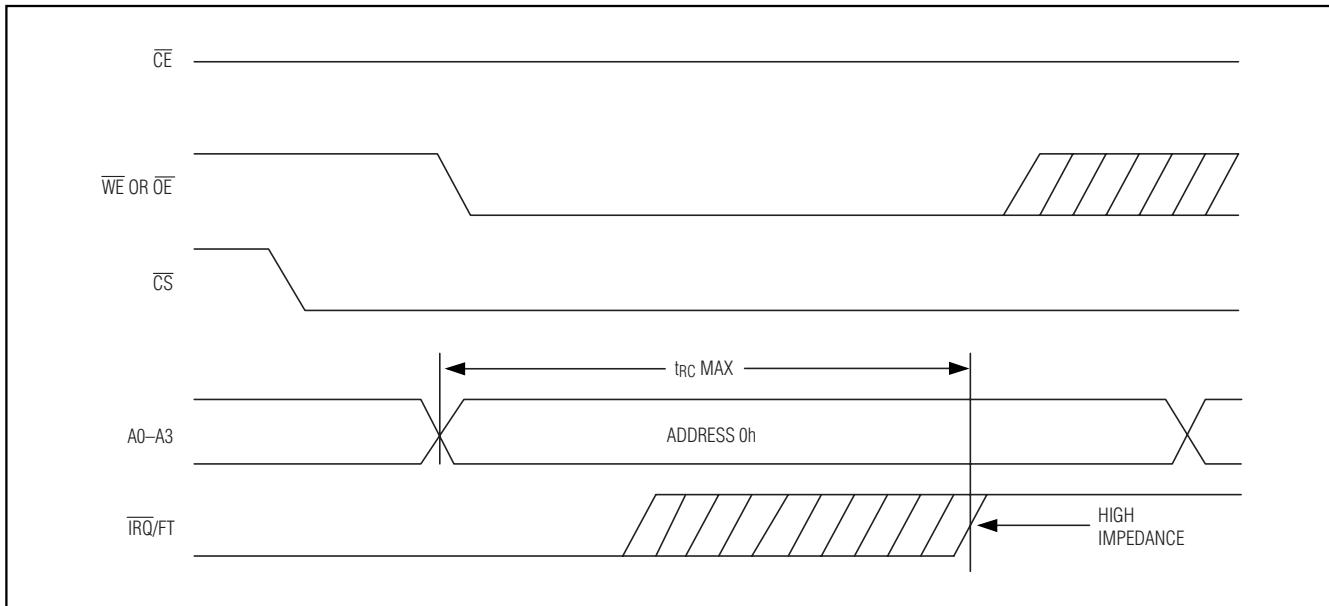
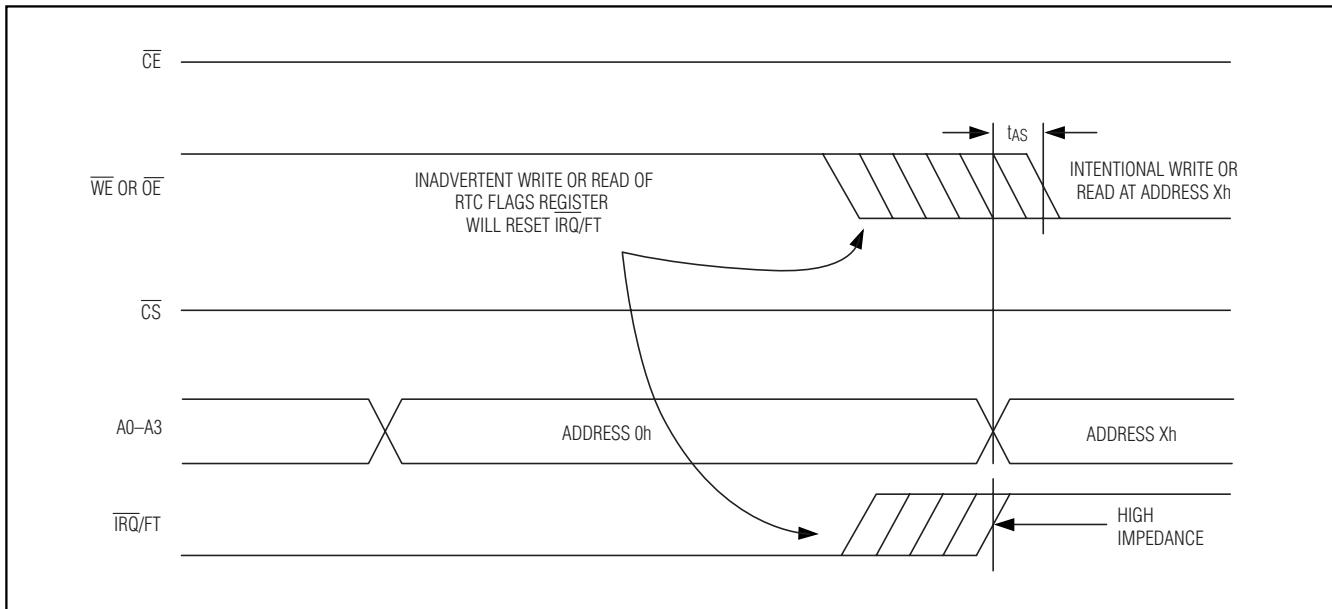

Figure 1. Clearing Active IRQ Waveforms
Figure 2. Prevent Accidental Clearing of IRQ Waveforms
When the RTC register values match alarm register settings, the alarm flag (AF) is set to a 1. If AE is also a 1, the alarm condition activates the $\overline{\text{IRQ}}/\text{FT}$ output. When $\overline{\text{CS}}$ is active, the $\overline{\text{IRQ}}/\text{FT}$ signal can be cleared by holding the FLAGS register address stable for t_{RC} and forcing either $\overline{\text{OE}}$ or $\overline{\text{WE}}$ active (see Figure 1). The flag does not change state until the end of the read/write cycle and after the $\overline{\text{IRQ}}/\text{FT}$ signal has deasserted. To avoid inadvertently clearing the $\overline{\text{IRQ}}/\text{FT}$ signal while preparing for subsequent write/read cycles at other register addresses, assure that t_{AW} is met for that subsequent address (see Figure 2).